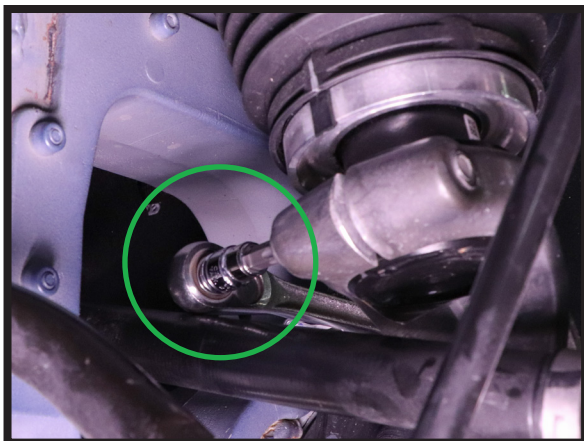

FIGURE 8
5. REMOVE CLEVIS MOUNT BOLT. (FIGURES 8, 9)